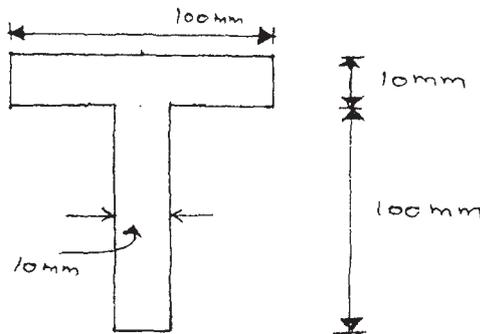

Fig. 5
- (b) A simply supported beam of span 6 m is subjected to an uniformly distributed load of 20 kN/m over entire length. At a section 2 m from the left end and 30 mm above the neutral axis, determine the bending stress and shear stress. The cross section of the beam is as shown in Fig. 5.